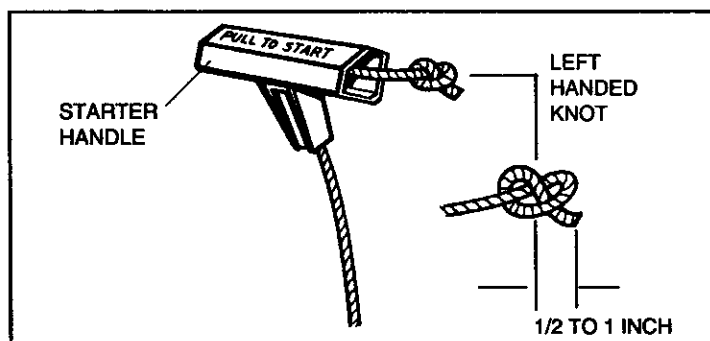

Figure 4
- C. Feed starter rope through starter handle (see Figure 4) and tie a left hand knot, leaving 1/2 inch to 1 inch of starter rope extending beyond left hand knot. DO NOT PULL LEFT HAND KNOT INTO STARTER HANDLE YET.